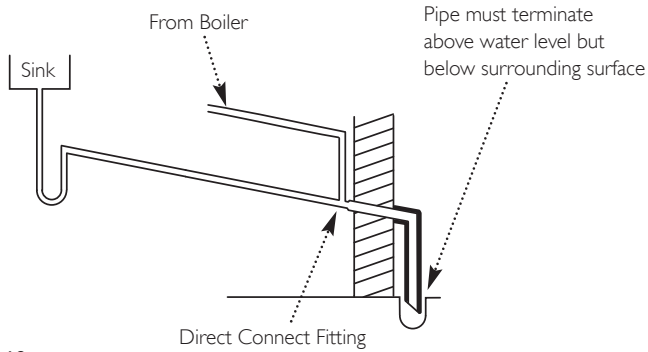

Fig. 18
- i) via an internal discharge branch (e.g. sink waste) - Fig. 18.